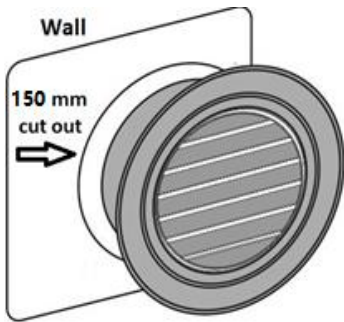

**Fig. 9**
- Determine the length of Aluminium Duct required between METT fan outlet and the out grille (Fig. 9) as show in the diagram above (Fig. 2 & 3). 3 meters of Aluminium duct are provided. Cut Aluminium duct to appropriate length and connect the METT fan and out grille. fit Aluminium duct to the outlet of the METT fan and feed to outlet of the wall grille. Use tape to secure this Aluminium duct connection if required. We recommend the location of the grille (Fig.9) on the exterior wall/surface of the building in such that the ducting is routed as straight and linear as possible between the METT fan and the grille outlet. This will ensure best air extraction.